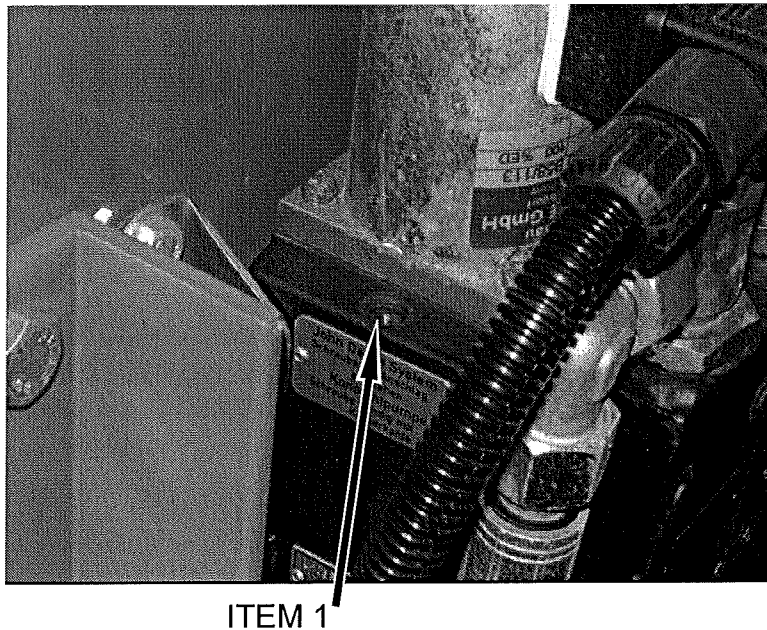

Fig 5.8
The screw is located in the top face of the end section (Fig 5.8 item 1). For closed centre configuration tractors, turn the screw clockwise until fully closed. For open centre, turn the screw anticlockwise until fully out.